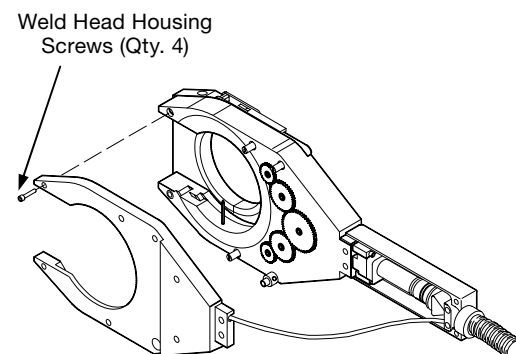

Figure 16 Disassembling the Weld Head Housing
5. Remove the four weld head housing screws from the housing. Using a flat blade screwdriver, carefully separate the brush side from the gear side. See Figure 16.
6. Carefully separate the weld head housing halves so that internal components, such as the ground pin insulators and fixture pin insulator are not damaged. See Figure 16.